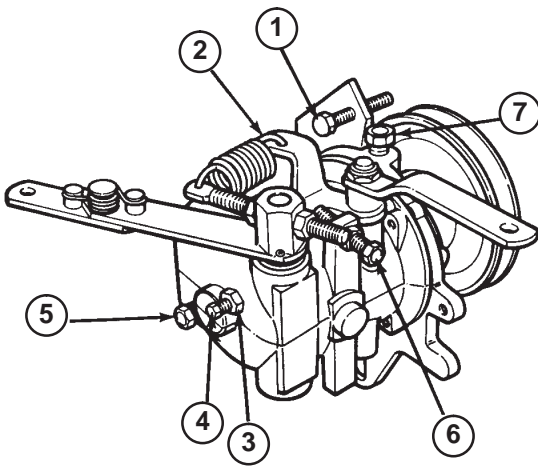

Figure 34
6. Slowly move throttle to FAST position until engine speed reaches 3200 ± 100 rpm. Shut off engine. Adjust high idle stop screw until it contacts speed control lever (Fig. 34).
8. Check V-belts from engine to governor pulley and assure they are tight. If belts are loose, the engine will surge. If belts are tensioned properly, loosen jam nut that retains the anti-surge screw (Fig. 34). Rotate screw clockwise 1/8 turn at a time until surging stops. Should governor continue to surge, check the following:
- Clean area around check plug on governor (Fig. 34)